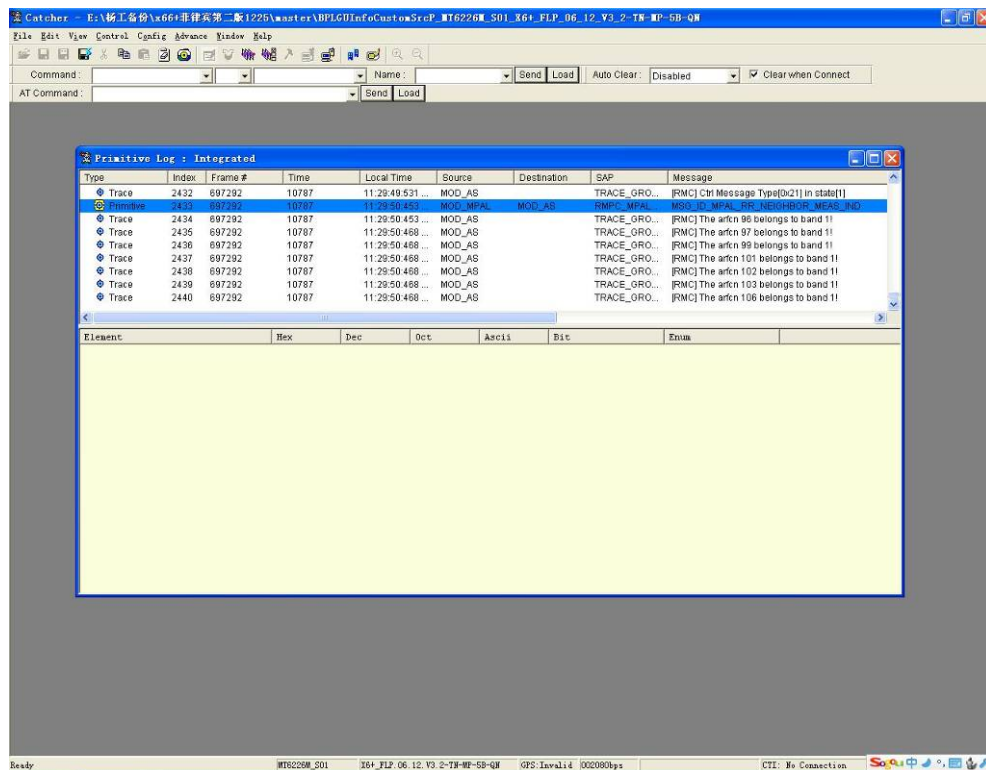
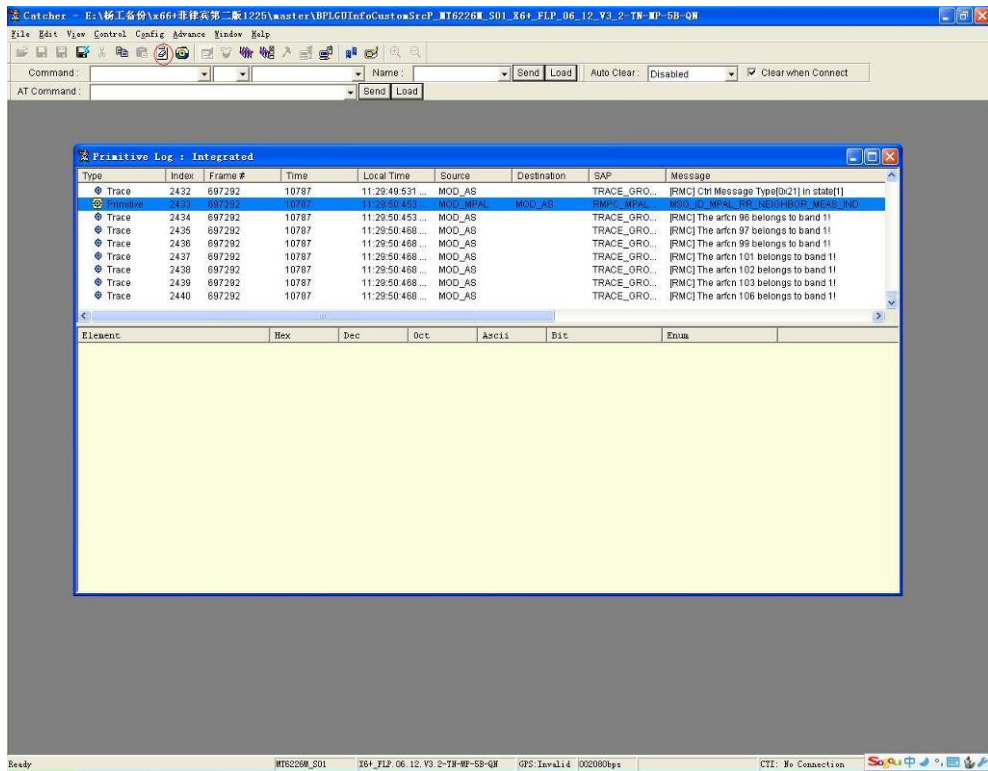

Figure 17
Figure 18
5.3 The catcher records primitive information as showed in figure 17. Click the button "clear" in figure 18 to clear the useful primitive information. Then the phone user carries on some operations to the phone to make the failures recur. After the wanted failures occur wholly, click the button "disconnect" in figure 19. You can save the ".clg" file now as showed in figure 20, and name it. The ".clg" file is that needed for analyzing the failures of phone.